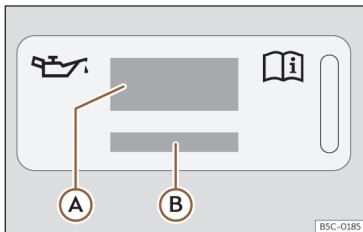
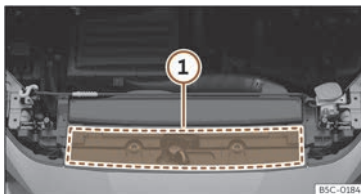

Fig. 213 In the engine compartment: engine oil label
Fig. 214 In the engine compartment: area where the engine oil label is located
Key to the >>> **Fig. 213**:
If the engine oil has to be topped up, use one of the oils shown on the label >>> **Fig. 213**. The label with the prescribed standard is located at the front of the engine compartment >>> **Fig. 214** (1). If you use the recommended engine oil, you can top up the oil as often as necessary.
- If the label showing the engine oil specifications is missing >>> Fig. 213, please contact a specialist workshop.